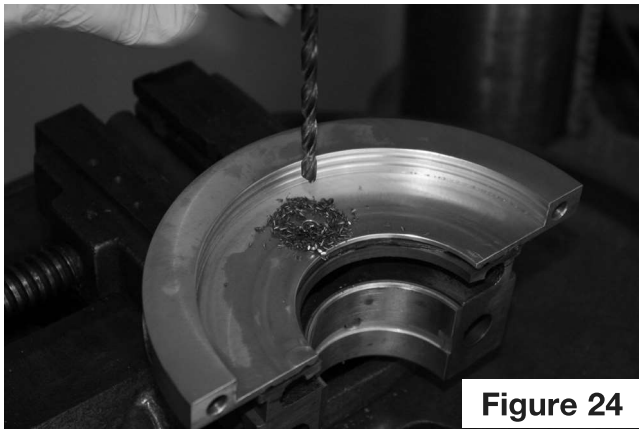

Figure 24
- 24) At this point it is necessary to drill a $\frac{3}{16}$ " hole through the web of the rear main cap to allow the oil that collects in the cavity around the new seal to drain into the trough in the main cap and back into the sump. Carefully drill directly through the $\frac{3}{16}$ " hole in the housing with a drill press or hand drill. (Figure 24)